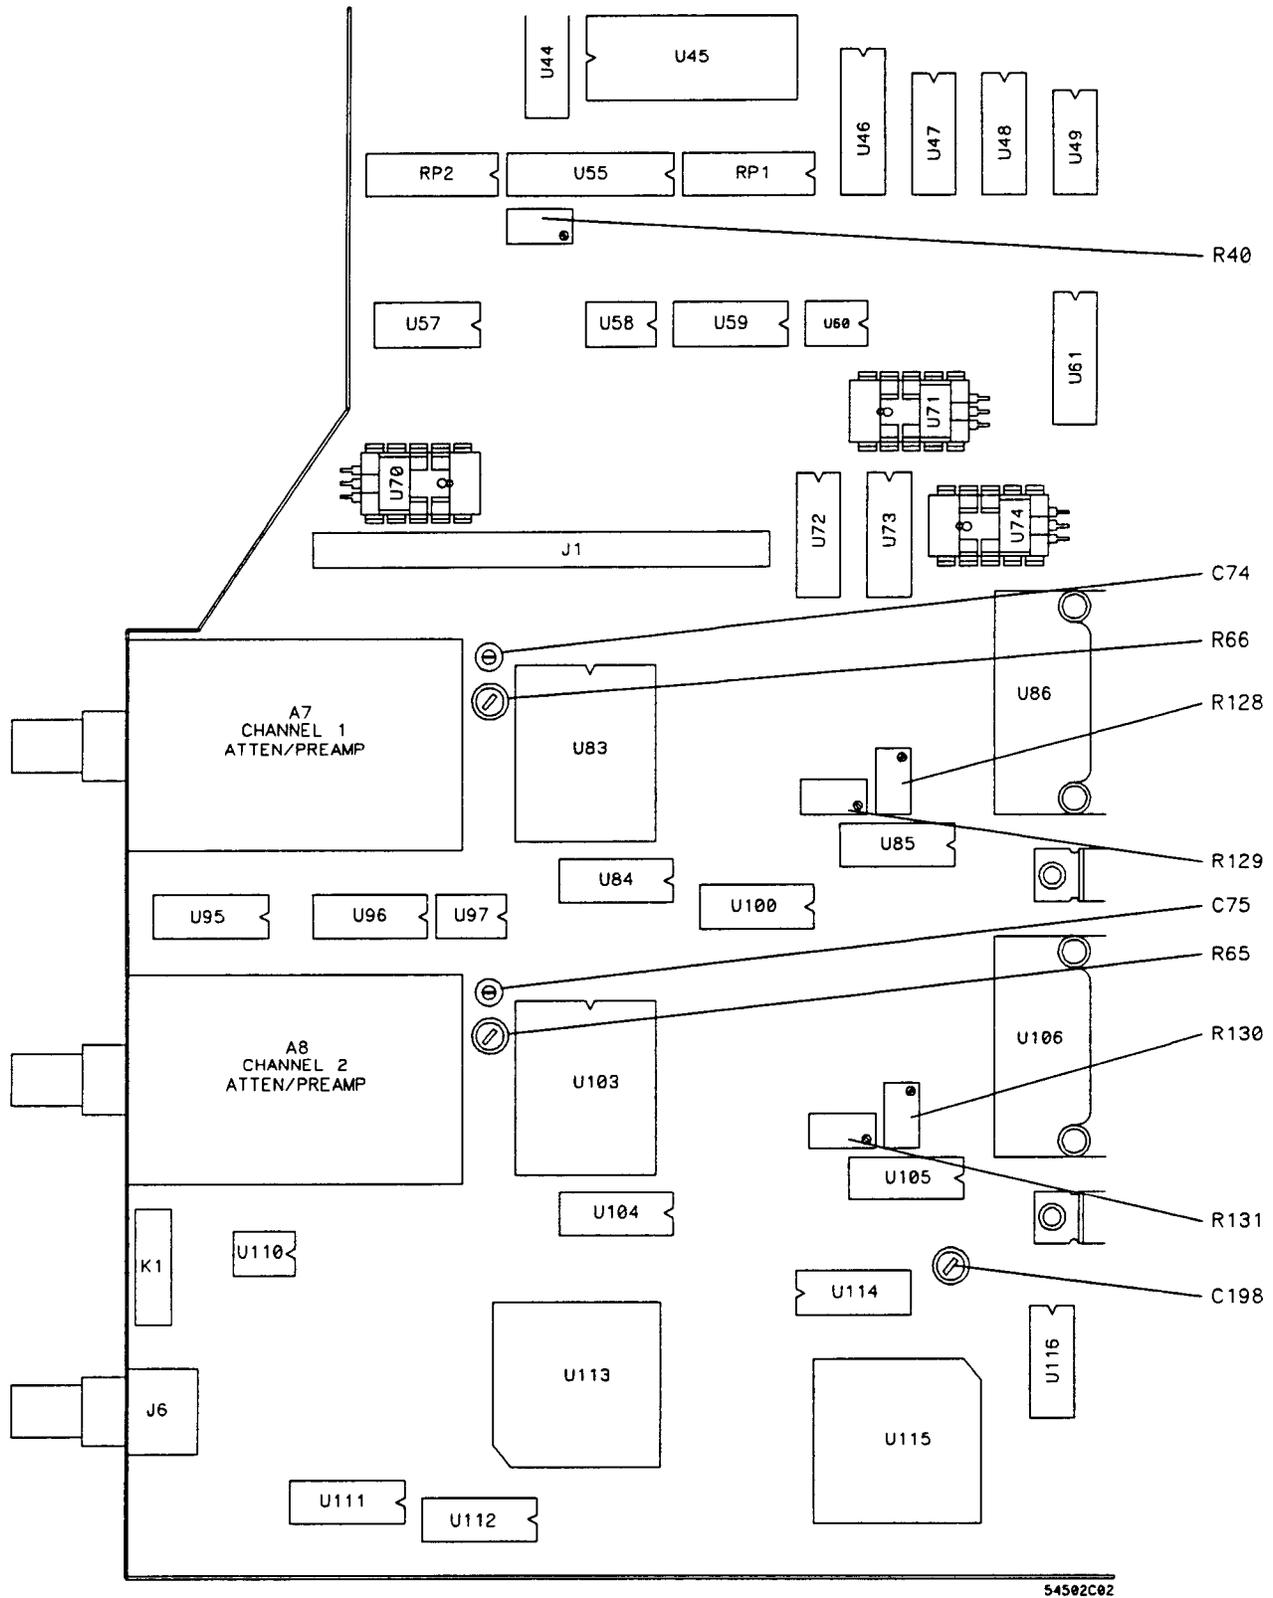

Figure 4-2. Main Assembly Adjustment Locations
5. Adjust main assembly adjustment R40 for DVM indication of 5.0000 V. Refer to figure 4-2 for adjustment location.